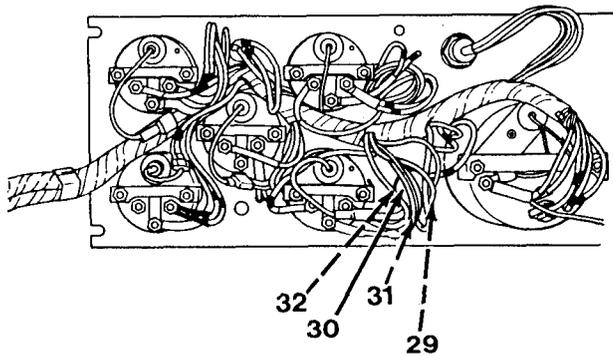

Figure 17-4
11. Installation of horn button: Connect wires (29). Install nut (31) on horn button (29), push horn button through dash and install rubber cover (32, Figure 17-4). Tighten nut (31).